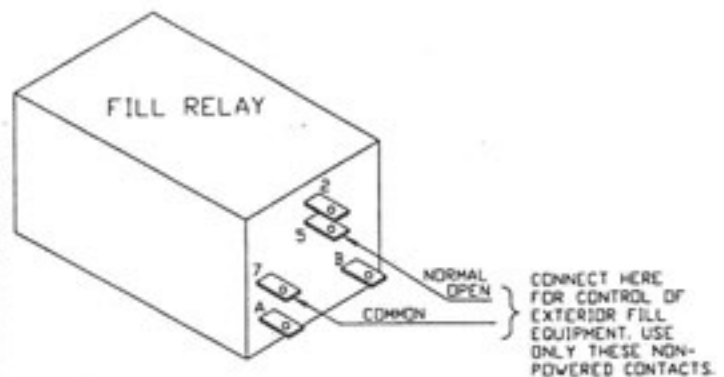

Figure 7A – 370 Relay Non-Powered Contacts
2. On Model 370, the power for the fill auger motor magnetic starter coil is controlled by the non-powered contacts of the relay provided in the magnetic starter cabinet. See Figure 7A.